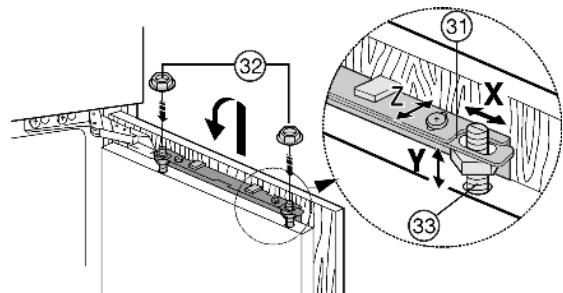

Fig. 22
- ▶ Attach the unit door to the adjusting bolts *Fig. 22 (33)* and loosely screw the locknuts *Fig. 22 (32)* onto the adjusting bolts.
- ▶ Align unit door in height and lateral inclination: Adjust the adjusting bolts *Fig. 22 (33)* using a screwdriver.
- ▶ Tighten the lock nuts *Fig. 22 (32)*.